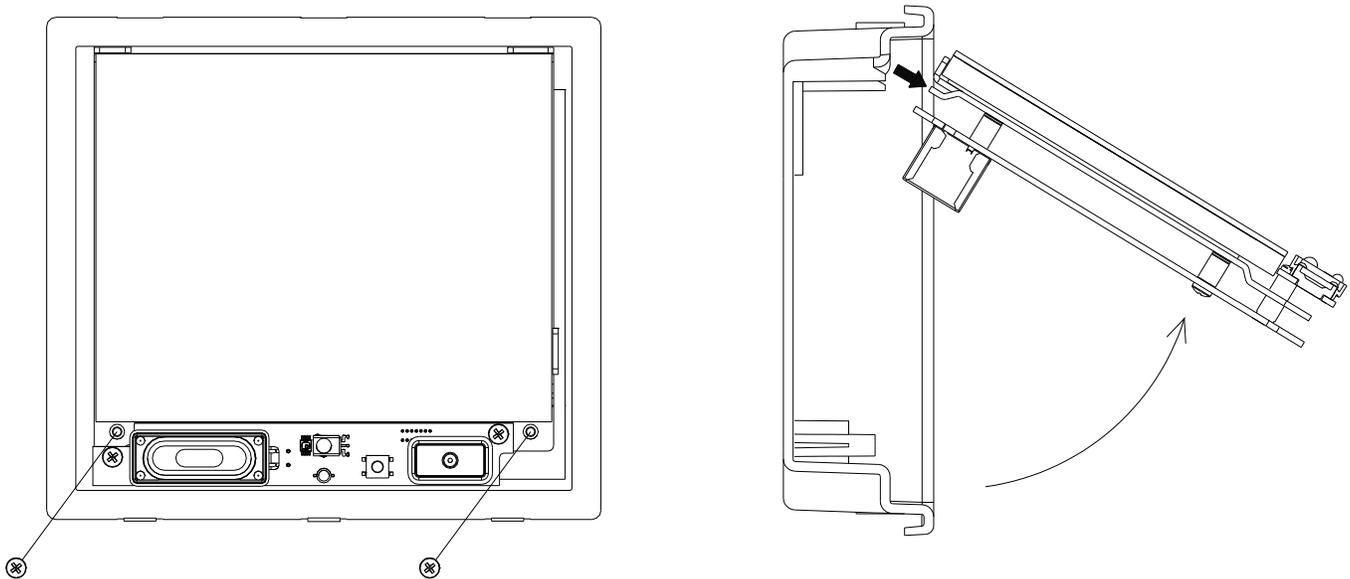

Figure 3
- a. Remove the two screws as shown in Figure 3 (DO NOT REMOVE THE SCREWS ON THE GREEN CIRCUIT BOARD). Retain screws for reassembly.
- b. Remove the touchscreen assembly as shown in Figure 3.